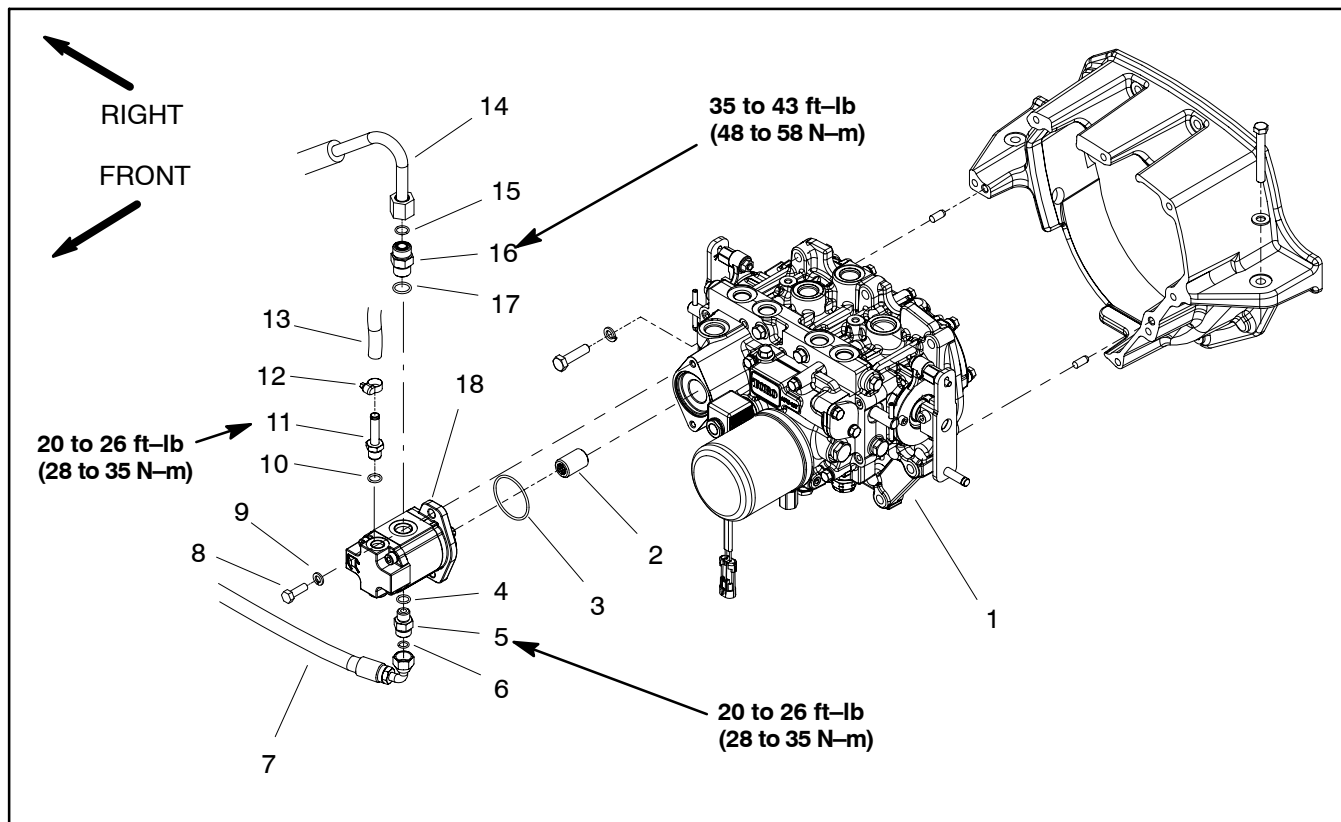

Figure 94
Removal (Fig. 94)
Installation (Fig. 94)
1. If hydraulic fittings were removed from pump, lubricate and install new O-rings to fitting. Tighten fittings to torque values identified in Figure 94 (see Hydraulic Fitting Installation in the General Information section of this chapter).
2. Slide coupler onto transmission shaft. Lubricate O-ring (item 3) with grease and position on flange of gear pump.